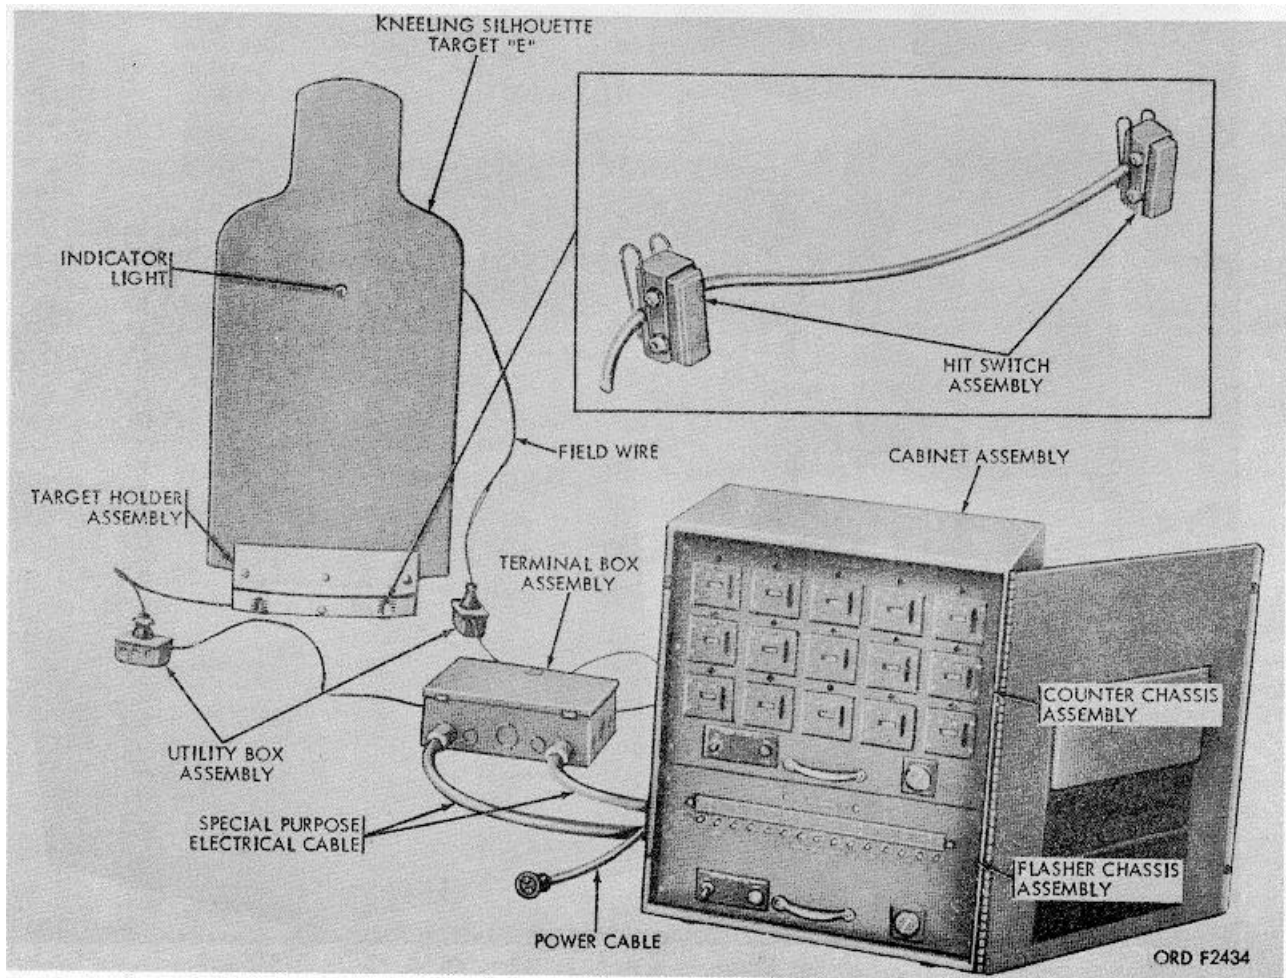

Figure 2. Night firing target mechanism XM31 - components and assemblies.
b. *Cabinet Assembly* (fig. 2). The cabinet assembly is fabricated of sheet metal. It serves as a housing for the counter chassis assembly and the flasher chassis assembly, both of which can be removed as separate units.
c. *Counter Chassis Assembly* (fig. 2). The counter chassis assembly is an electromechanical unit containing 15 counters. The counters record the hits made by the trainee upon the target(s) selected by the operator.
d. *Flasher Chassis Assembly* (fig. 2). The flasher chassis assembly is an electro-mechanical unit with 15 selector switches. These switches are operated manually by the operator of the target mechanism XM31 for selecting the target(s) to be fired upon. The switches can be operated in any desired sequence for either single or rapid fire.
e. *Terminal Box Assembly* (fig. 2). The terminal box assembly is provided with two color coded cables which connect to the counter chassis assembly and flasher chassis assembly. The plug connectors on the
f. *Target Holder Assemblies* (fig. 2). The target holder assemblies are used to hold and emplace the target.
g. *Hit Switch Assemblies* (fig. 2). The hit switch assemblies consist of two sensitive switches attached to a cable. Clips on the switches permit the assembly to be attached to target holder assembly. The impact of the hits on the target activates the sensitive switches and relays to the counter the number of hits scored on the targets.
h. *Indicator Lights* (fig. 2). The indicator lights are mounted on the targets, one per target, and reveal the location of the target by flashes of light simulating gun fire.
i. *Utility Box Assemblies* (fig. 2). The utility box assemblies are used as junction points from the hit switch assemblies (*g* above) and indicator lights (*h* above) on the targets to the terminal box assembly (*e* above).